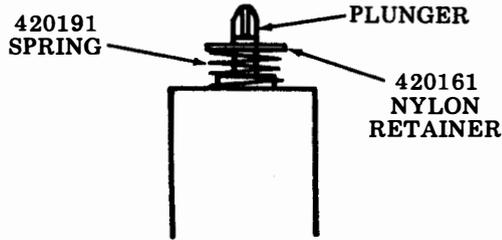

Fig. 47
- (a) With the keytop removed, remove the nylon retainer and spring (see Fig. 47).